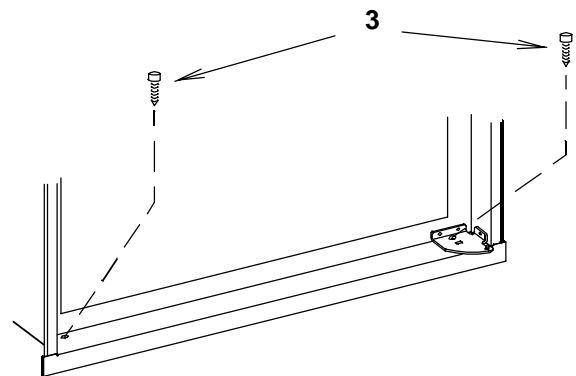

FIG. 8
2. Once the lower front strip is slipped under the hinge, the part is possible to swing into place as shown in FIG. 8.
One screw through the hinge, and on the opposite side one screw through the lower front strip. (FIG. 8).